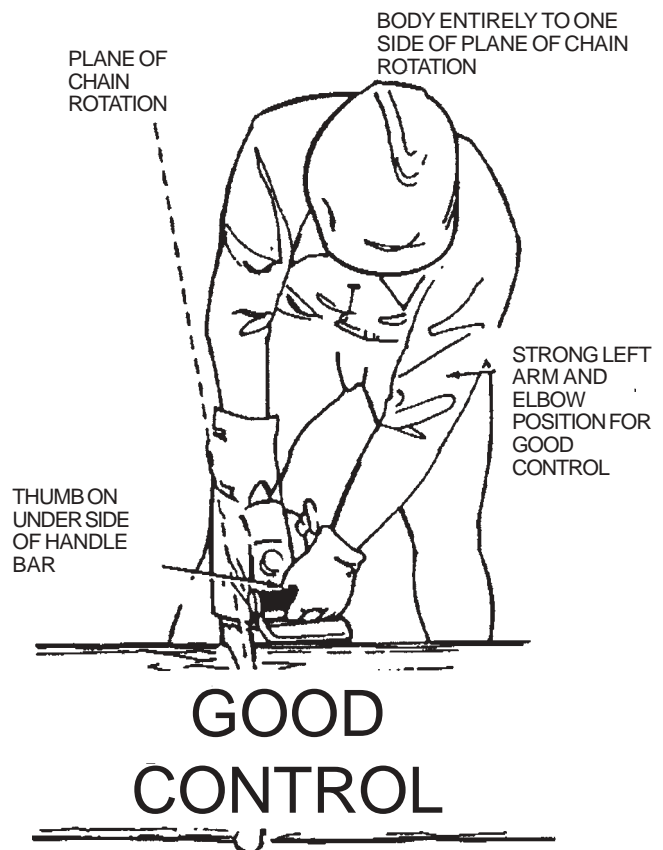

Fig. 9
1. Maintain proper stance and grip. (See Figure 9.)
2. Keep your body to the *left* of the guide bar. (See Figure 9.)